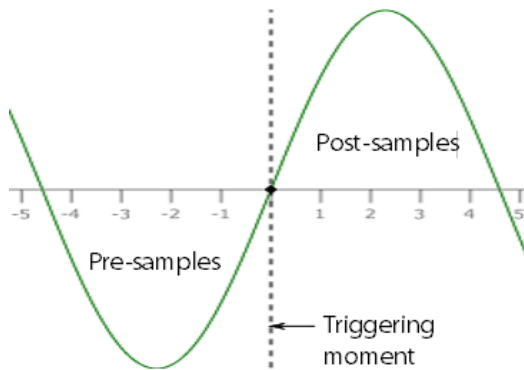

Figure 11.6
- *Pretrigger*: This function allows us to see what happens before the triggering event. In this mode the measurement is divided into two parts called Pre sample (measured before the triggering event) and Post sample (measured after it) (Figure 11.6). You can set how many of the total record is occupied by the Pre sample. This function is especially useful if you have to locate a random error and you want to see what happens right before it.